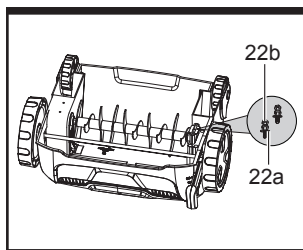
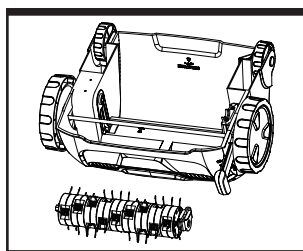

Fig. 12a
Fig. 12b
- 3). Loosen the two bolts (22a) with a suitable wrench, remove them together with the spring washers (22b) and the presently attached cutting device (21 or 23). (See Fig. 12a).
- 4). To remove the cutting device, first lift the bearing and then pull it out from the drive shaft (25).
- 5). Align and insert the respective cutting device: Slide the hex nut into the socket of driving shaft (25) and fix the bearing to the support with the bolts (22a) and spring washers (22b). (See Fig. 12b).